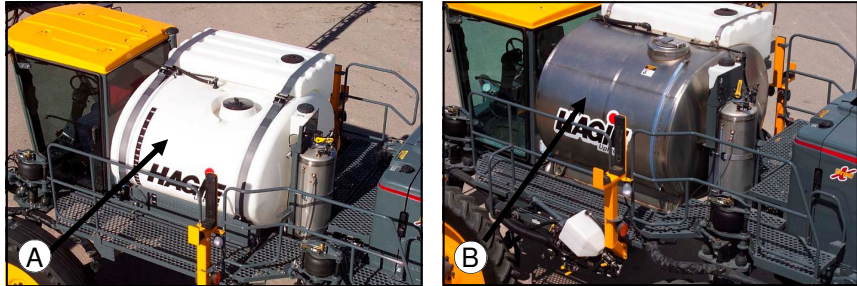

FIG. 63-1
**SOLUTION TANK**– You have the option of the poly tank (fig. 63-1, item A) or the stainless steel tank (fig. 63-1, item B), both are 1000 gallon capacity. Their functions are similar, the only notable difference being the plumbing of the tanks. The poly tank has an eductor type agitation system and the stainless steel tank has a sparge type agitation system.